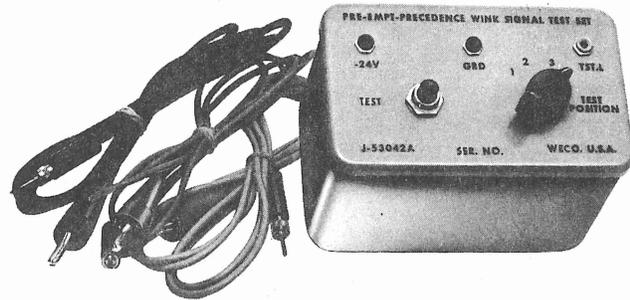

Fig. 1 — Preempt-Precedence Wink Signal Test Set
*Group 1* — Assembly and equipment for a printed wiring board network having a wink signal with a nominal 345-msec open in the off-hook ground of E lead per SD-69550-01, Fig. 1.
*List 1* — Assembly, wiring, and equipment for one preempt-precedence wink signal test set per SD-69550-01, Fig. 1.